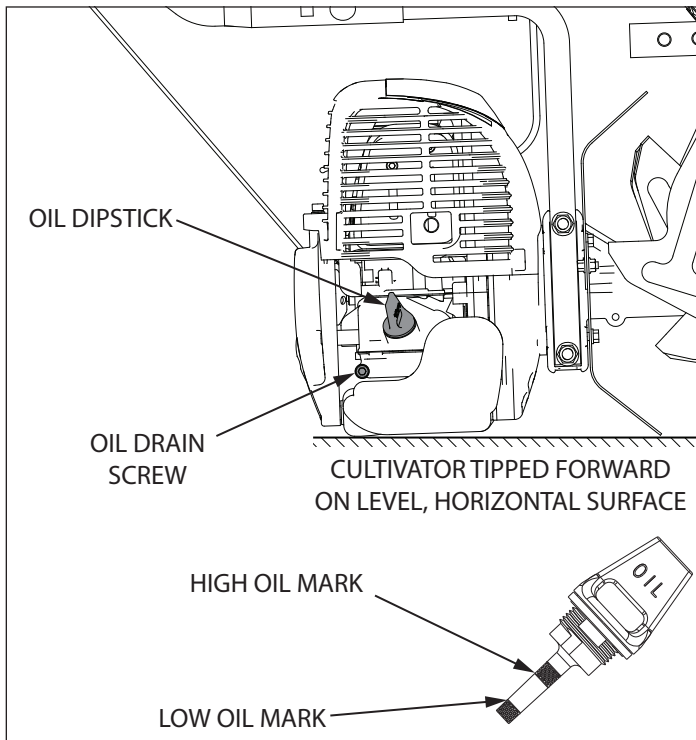

FIGURE 3
Be sure the engine is located on a level surface before checking or refilling oil. Proper position for checking oil level or refilling oil is face down, with the gas tank of the cultivator down on a horizontal surface. **SEE FIGURE 3**
4. Unscrew and check dipstick. If no oil shows on the dipstick, refill so that the oil level appears between the low and high marks on the dipstick. **SEE FIGURE 3**